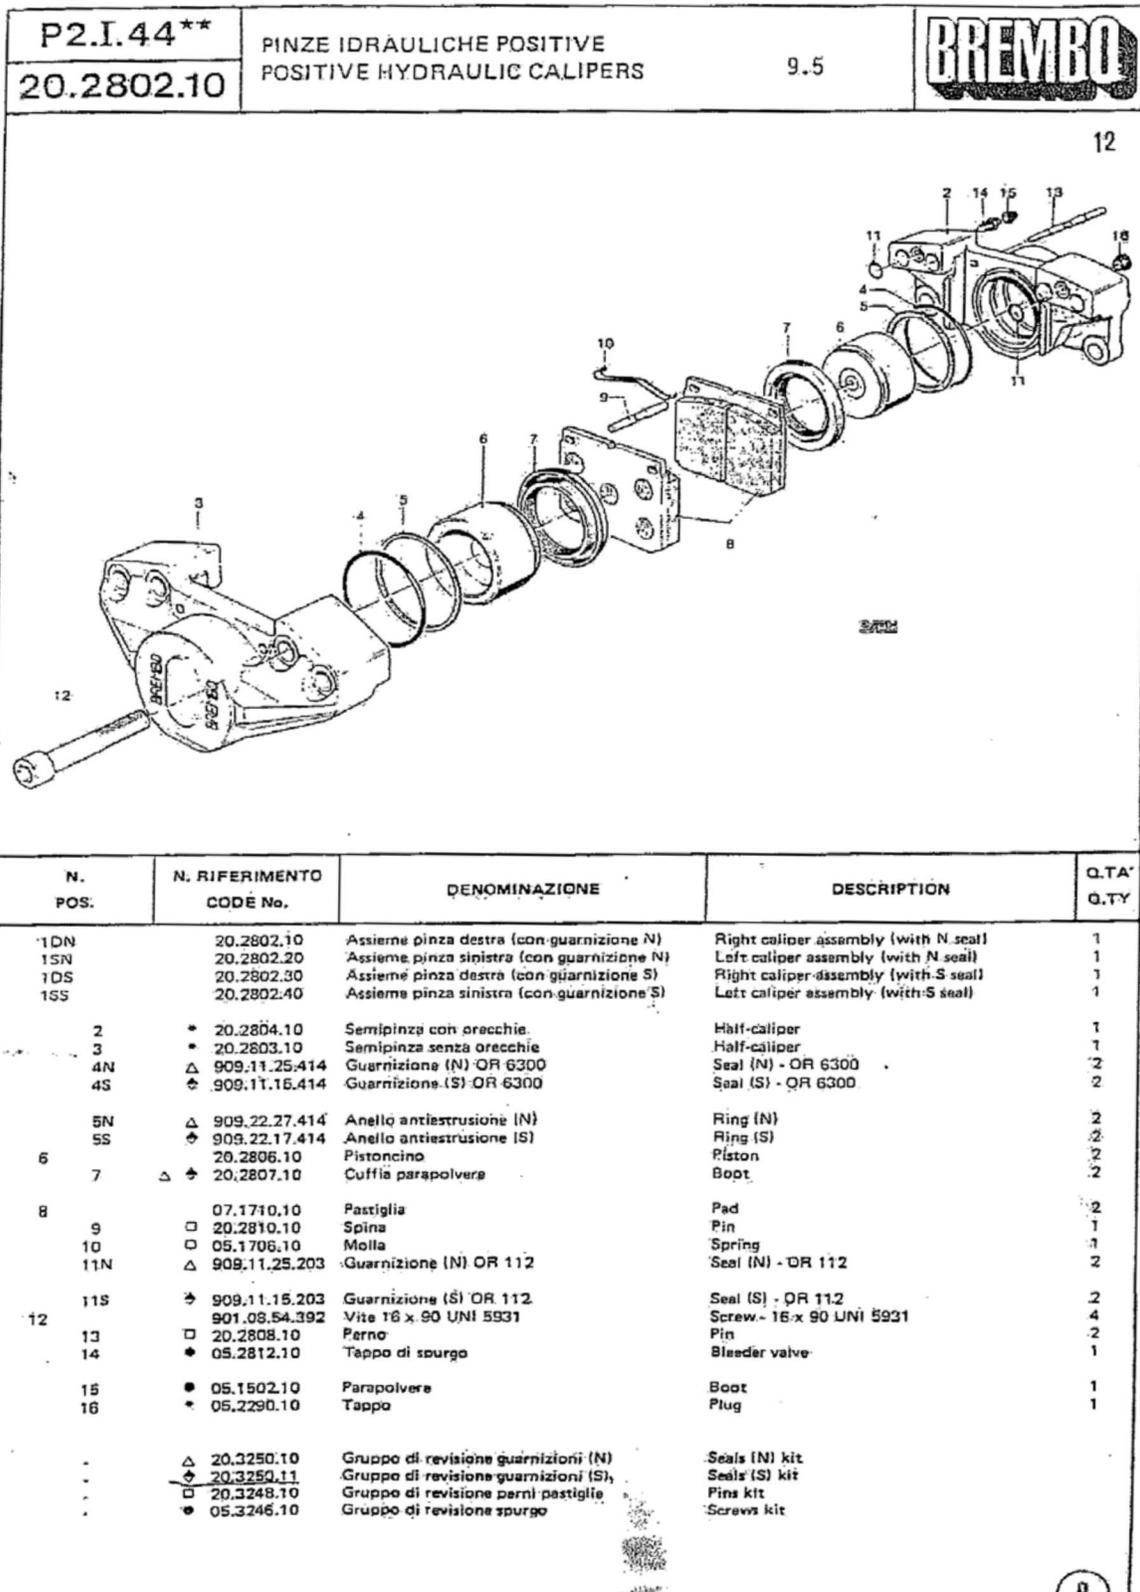

Figure 4-46. Brembo spare parts drawing, brake
**Refer to** Figure 4-46
1. Check the thickness of the brake pads (pos. 8, Figure 4-46) and note the measurement in the inspection log.
3. Check the calipers for leaks and worn rubber sleeves (pos. 7, Figure 4-46).